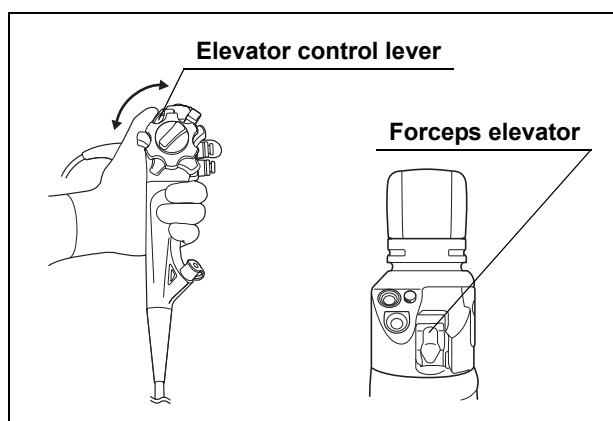

Figure 3.5
1. Move the elevator control lever slowly all the way in the opposite direction of the “◀U” direction. Visually confirm that the portion of the elevator wire extending from the distal end of the insertion section is not broken or bent (see Figure 3.5).
2. While observing the forceps elevator at the distal end of the insertion section, slowly move the elevator control lever all the way in the “◀U” direction. Confirm that the lever can be operated smoothly and that the forceps elevator is raised smoothly. Also confirm that the forceps elevator remains stationary when pushed from behind while holding the elevator control lever stationary (see Figure 3.5).
3. Move the elevator control lever slowly all the way in the opposite direction of the “◀U” direction. Confirm that the lever can be operated smoothly and that the forceps elevator is lowered smoothly (see Figure 3.5).